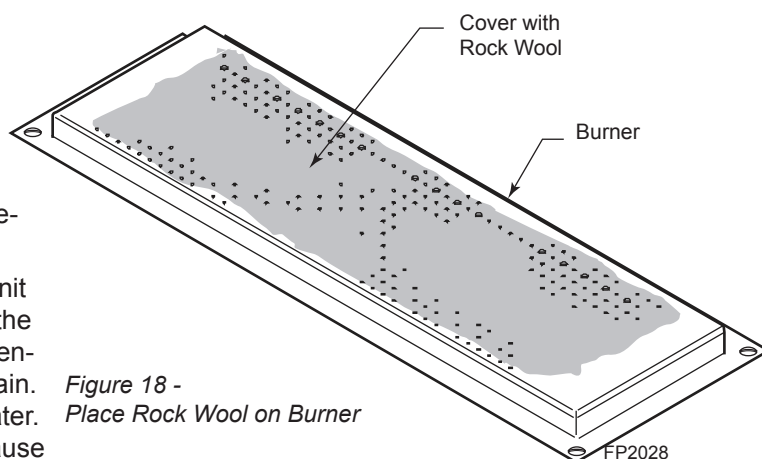

Figure 18 - Place Rock Wool on Burner
2. Distribute one layer of rock wool to cover the entire burner. *Figure 18*